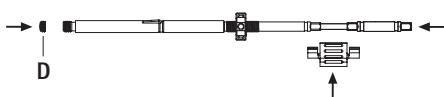

Fig. 12
- ▶ Insert the screwdriver in the inner sleeve, secure it with the spacer and install locking screw D, see Fig. 12.